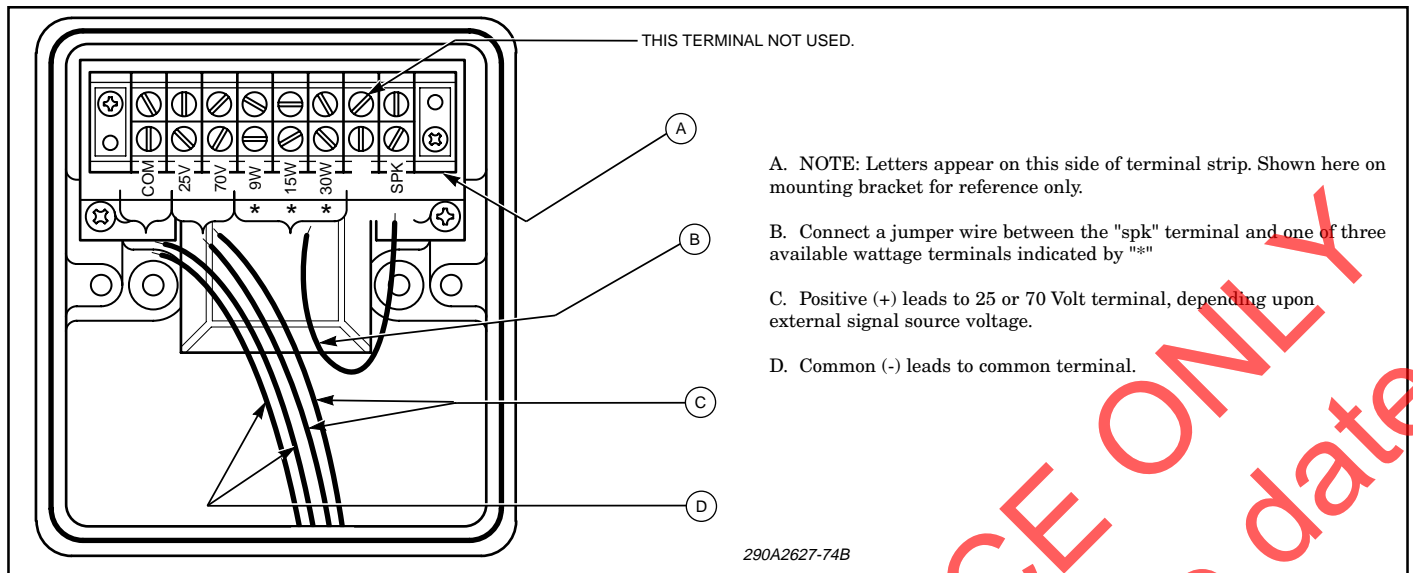

Figure 3. Internal Multi-tap Wiring Set-up.
3. Create a 4-inch long jumper using 14 - 22 AWG wire. Connect one end of the jumper wire to the terminal marked with the desired wattage (see figure 3). Connect the other end to the terminal marked "SPK".
Only three (3) of the five (5) wattage terminals marked on the terminal block are for use on the AM302 and AM302GCX. For proper operation, the speaker wire should be connected to one (1) of these terminals as indicated in figure 3. The remaining two (2) wattage terminals are not used.
- A. After installation is complete, be sure to test the system to verify that each speaker operates satisfactorily. If it is found that the unit is too loud for its location, a lower wattage tap may be selected. Carefully remove the housing cover and move the speaker internal yellow lead to a lower wattage tap (see Figure 3). Reinstall the housing cover and retest.